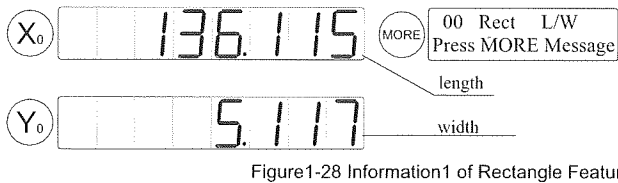

Figure1-28 Information1 of Rectangle Feature
- 1) The length and width of the rectangle is displayed as in figure1-28.